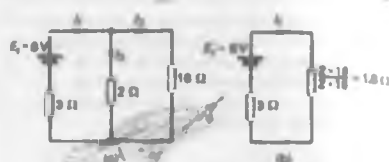
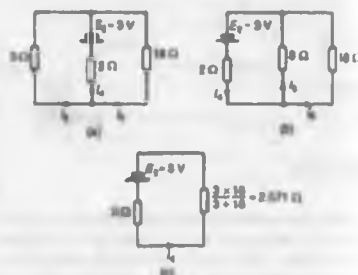
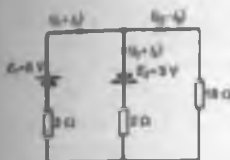

Figure 13.21
Figure 13.22
Figure 13.23
1 Removing source E_2 gives the circuit of Fig. 13.21(a)
2 The current directions are labelled as shown in Fig. 13.21(a), I_1 flowing from the positive terminal of E_1
From Fig. 13.21(b),
From Fig. 13.21(a),
3 Removing source E_1 gives the circuit of Fig. 13.22(a) (which is the same as Fig. 13.22(b))
4 The current directions are labelled as shown in Figures 13.22(a) and 13.22(b), I_4 flowing from the positive terminal of E_2
From Fig. 13.22(c),
From Fig. 13.22(b),
- 5 Superimposing Fig. 13.22(a) on to Fig. 13.21(a) gives the circuit in Fig. 13.23